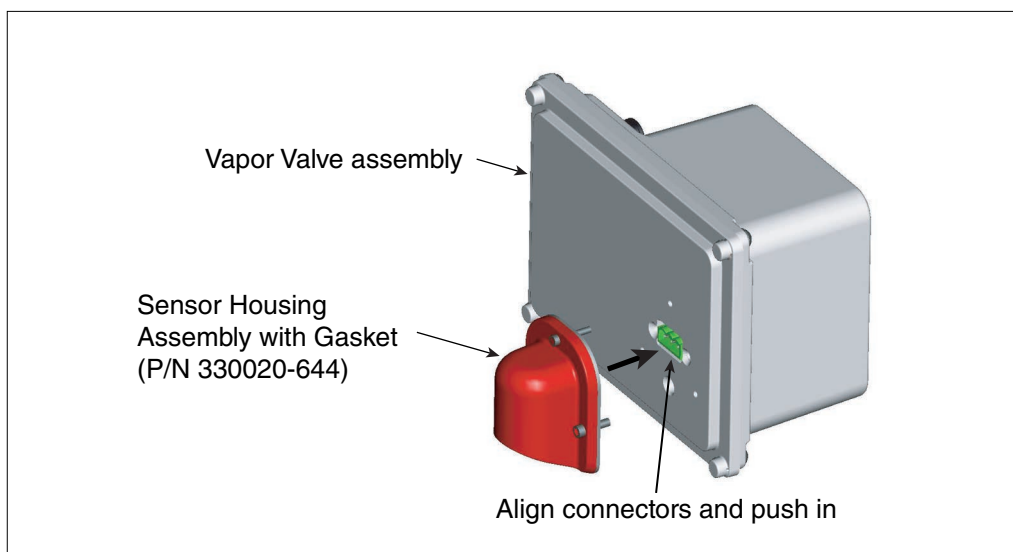

Figure 15. Replacing sensor housing assembly
3. Align the replacement sensor housing assembly's connector with the connector in the vapor valve assembly and push in the assembly until it seats against the vapor valve assembly (see Figure 15).